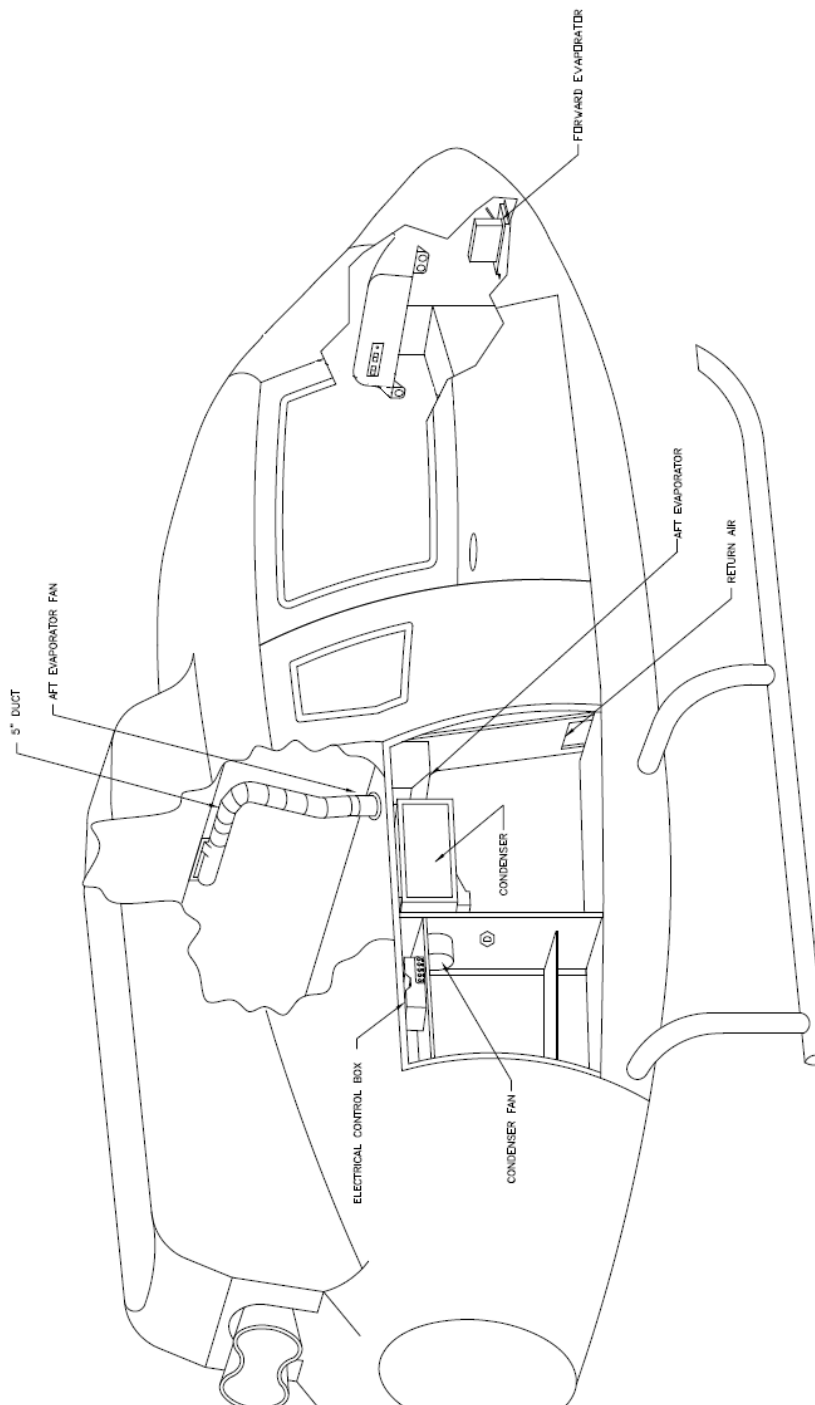

Figure 6-01: Side Mounted Condenser Configuration
a) Access Item Identification (Ref. figures 6-01 & 6-02)
- **Condenser-** The condenser is located in one of two positions depending on kit part number (Ref. Section 21.00.00 System Description). The aft mounted condenser (Kit numbers 350-00-031HP and 130-00-031HP) (Ref. figure 6-02) is mounted in the tail boom mounted 5 in. above the baggage floor and is accessed by removing the tail boom closeout panel. The side mounted condenser (Kit Number 350-00-011HP) is located in the right baggage compartment (Ref. figure 6-01) and is accessed by removing to baggage compartment close out panel.